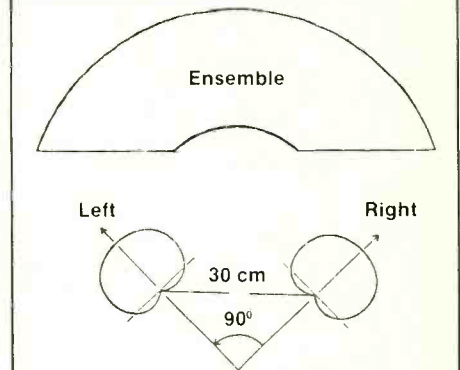

Figure 13: NOS
7. NOS (Figure 13) utilizes two cardioids spaced 30cm (11.8 inches) apart, and angled at 90° . Developed by and named after the Dutch national broadcasting network, the NOS coincident technique can lead to phasing effects because of the wide capsule separation, if placed too close to the ensemble. (As a general rule of thumb, the distance between spaced microphones should be less than 12 inches, or greater than 12 feet.)